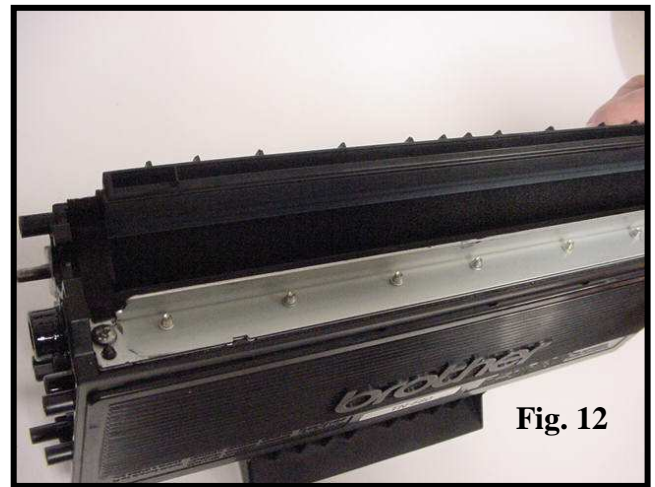

Fig. 12
12. Use compressed air and vacuum to clean all residual toner from the hopper. Clean the foam delivery roller, located behind the developer roller, thoroughly. Failure to do so can cause backgrounding. Clean the doctor blade with compressed air and a lint free cloth. Inspect the blade to ensure that no cloth fibers have adhered to the blade. Clean the developer roller sealing felts with compressed air (Fig. 12).